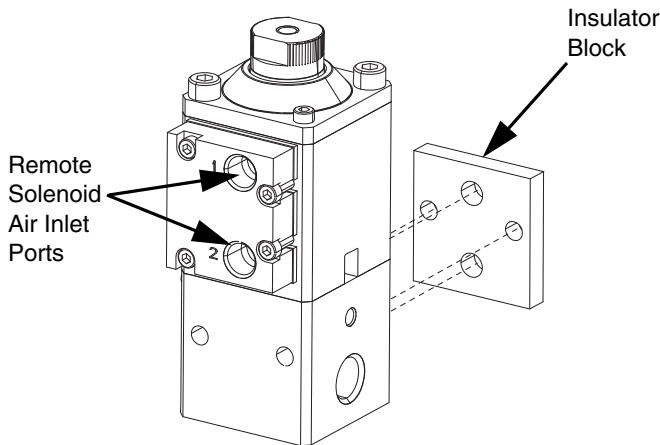

FIG. 5
- b. For valves with a remote mounted Solenoid (J), see the table below. See FIG. 5.